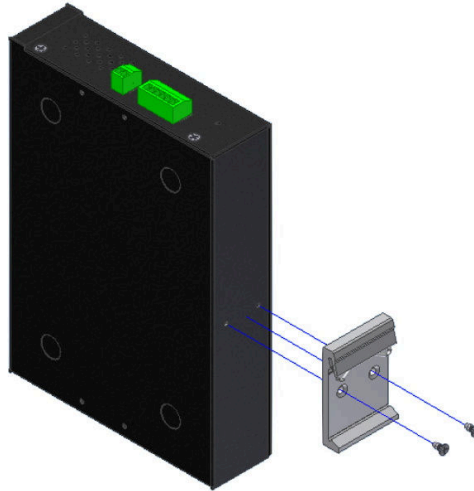

Figure 2.5.2
1. Install the DIN-Rail mounting plate to the NV-500. (Figure 2.5.2)